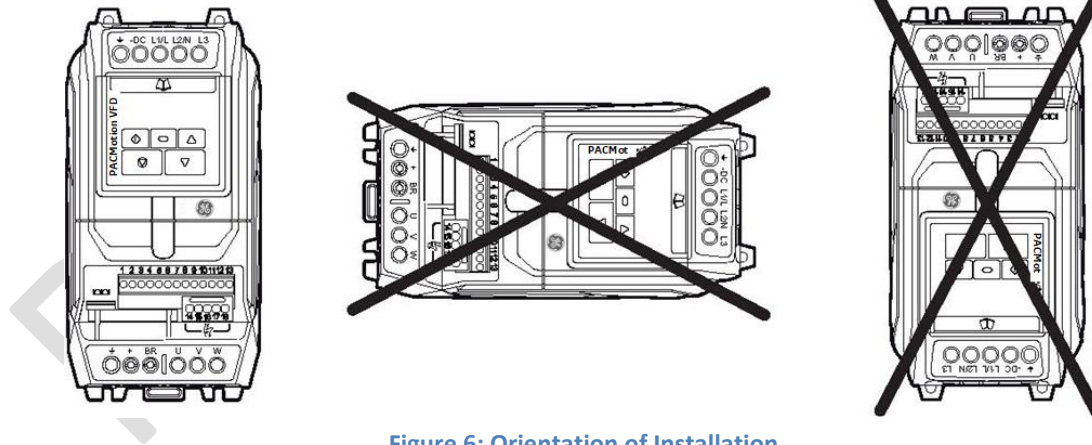

Figure 6: Orientation of Installation
- Install the frequency inverter vertically, as depicted in Figure 6: